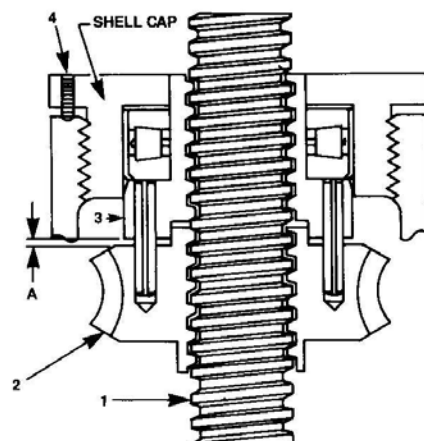

Figure 3-1 Anti-backlash Nut Adjustment
As shown in Figure 3-1, the worm gear (2) and anti-backlash nut (3) are printed together with guide pins. The threads in the anti-backlash nut work in opposition to the threads in the worm gear as they engage the threads of the lifting screw (1). Adjustment of backlash is made by running down on the shell cap of the screw jack. This forces the anti-backlash nut threads into closer contact, reducing clearance and thus reducing backlash.